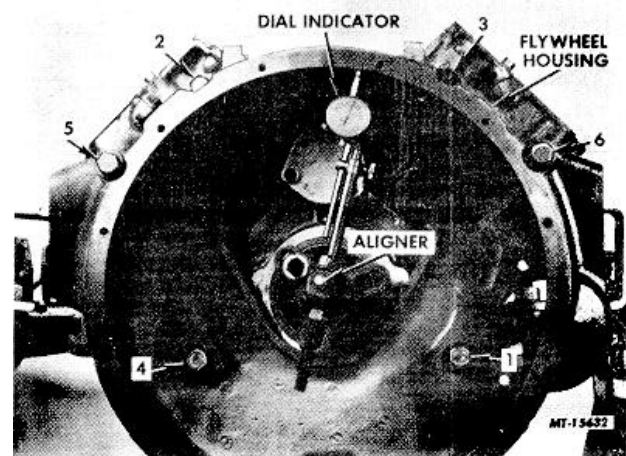

Fig. 165 Checking Flywheel Housing Alignment
19. Rotate cylinder block to horizontal position with top of block facing upward. Place flywheel housing in position over two aligning roll pins and tap into cap-screws (with flat washers) and tighten in sequence shown in Fig. 165.
20. Using aligner tool SE-1834 and dial indicator, check flywheel housing alignment (Fig. 165). Run-out (out-of-round) should not exceed specified limits. (See SPECIFICATIONS.)